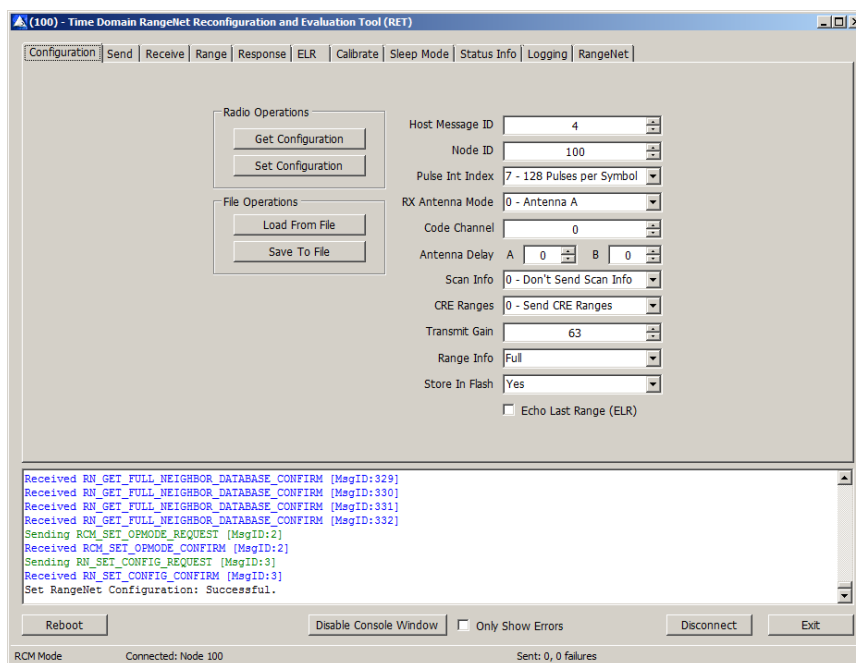

Fig. 10: RangeNet RET connected to the P440
3. If the connection is successful, click the **Connect!** button. The main operating window will open (**Figure 10**). The status window at the bottom should confirm that “Get Config” was successful.